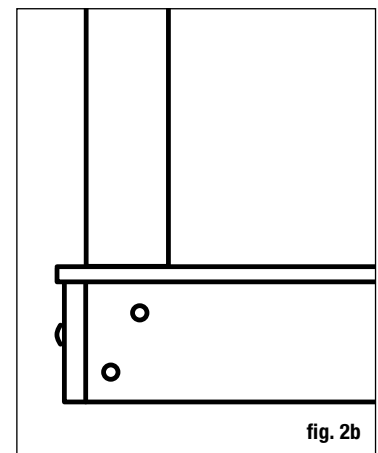

fig. 2b
Step 3: Position, plumb with a level, and clamp the rail post on the interior face of the joist. Plumb again. The 4x4 railing post should be bolted to the inside of the joists using two 1/2"x6" galvanized carriage bolts. Corner posts use a third carriage bolt inserted through the adjacent joist (fig. 2b).